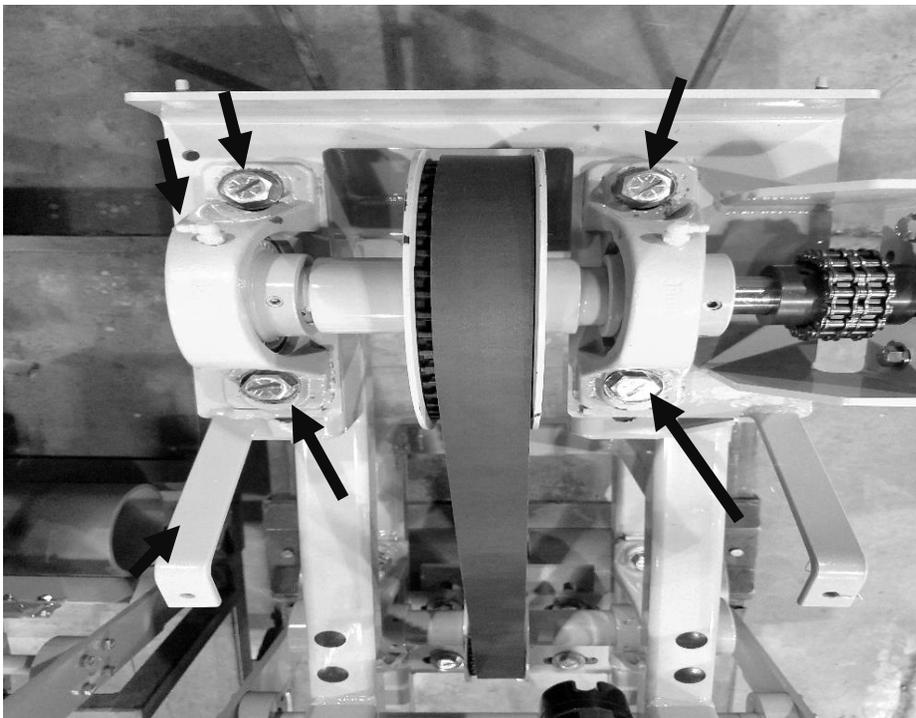

Figure 2—To tension the right cutter head drive belt, loosen the four Fasteners shown.
1. To tension the belt on the right cutter head, loosen the four fasteners that secure the two pillow-block bearings to the top plate and head frame. See **Figure 2**.
2. Slide the bearings and top plate toward the front of the head to tighten the belt. Tighten the belt until there is approximately $\frac{1}{2}$ inch of deflection in the center of the top belt run using moderate finger pressure. Make sure the bearings and top plate are positioned squarely on the head frame, then securely tighten the four fasteners (**Figure 2**).